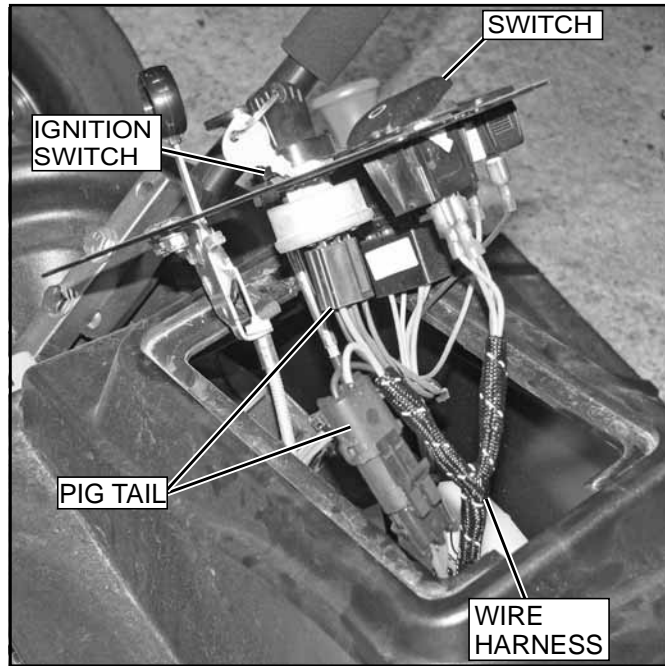

FIG. 4
7. Connect the pigtail harness to the ignition switch and to the mower's wire harness (Fig. 4).
8. Connect the weather pack connector on the wire harness to the weather pack connector on the pig tail harness and the female blade terminals on the wire harness to the switch (polarity is not critical). (Fig. 4).